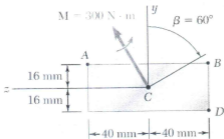

Figure. 3
3. a) A Beam has a square cross section and is subjected to a resultant internal bending moment of $M = 300 \text{ N}\cdot\text{m}$ as shown in Figure. 3